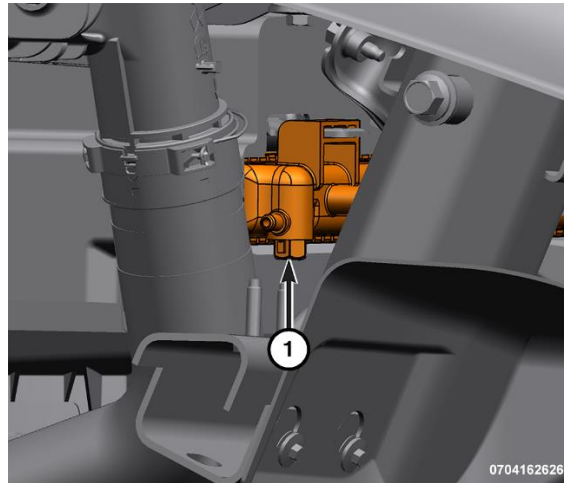

Figure 2 – Radiator Draincock
108. Install the front suspension skid plate (2). Tighten bolts (1) and (3) to 28 N·m (21 ft. lbs.) (Figure 2).
6. Open radiator draincock (1) located at the lower left side of radiator. Turn draincock counterclockwise until it stops and allow to drain (Figure 2).